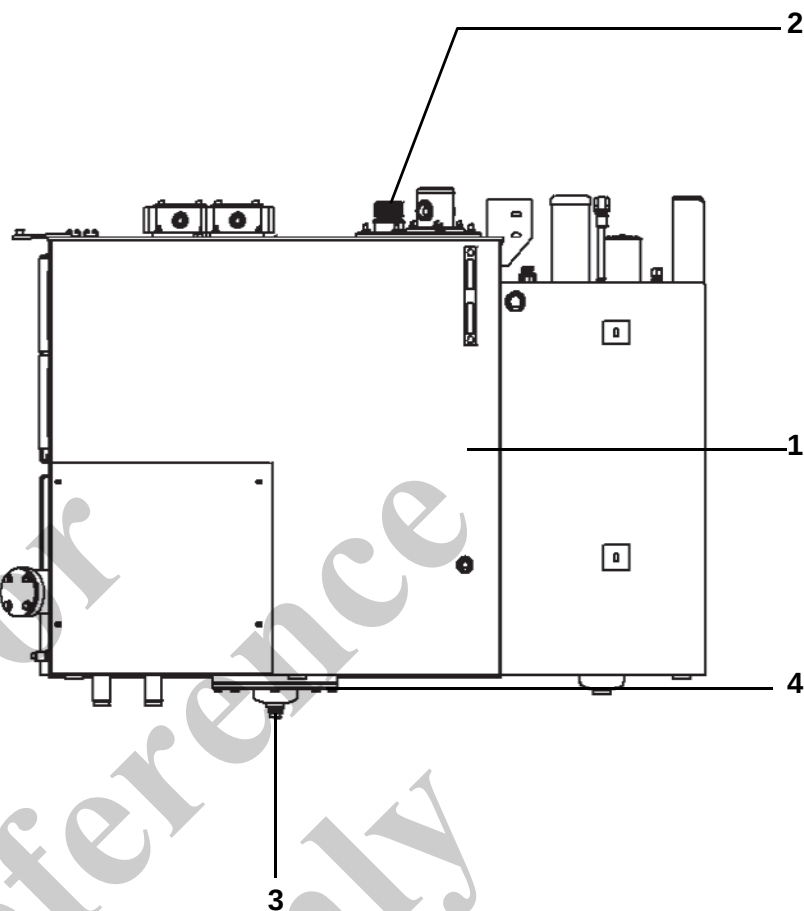

Fig. 17 Hydraulic oil tank
7	Unscrew the drain plug (3) in Fig. 17 on the underside of the tank and collect the used oil in the container.
8	Unscrew the 8 socket head bolts (4) in Fig. 17 and remove the cover.
9	Clean the cover, drain plug and the inside of the hydraulic tank (1) in Fig. 17.
10	Secure the cover and seal using the 4 socket head bolts (4) in Fig. 17.
11	Screw in the drain plug (3) in Fig. 17 and seal.
12	Unscrew the cap (2) in Fig. 17 of the oil filler neck.